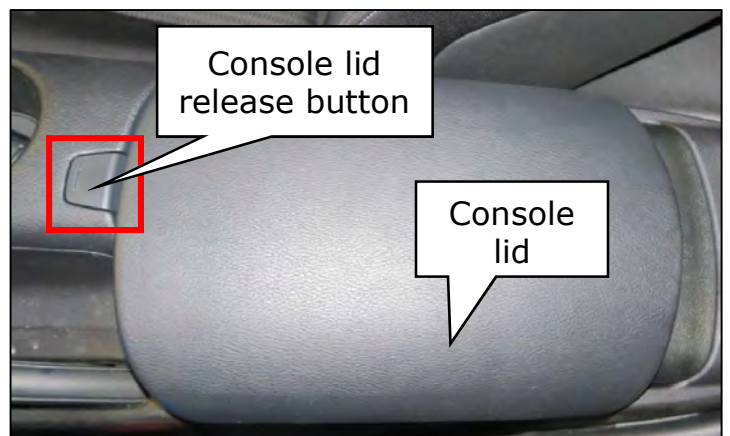

Figure 20
23. Open the center console lid by depressing the button on the top of the console assembly. (Figure 20)